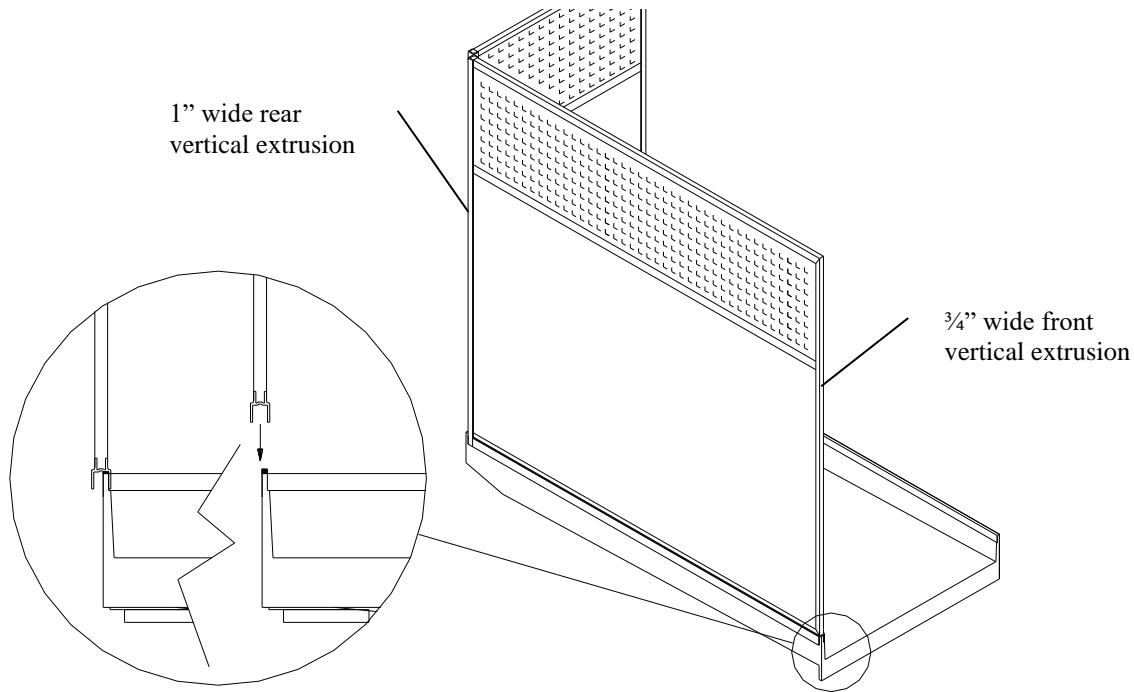

Figure 5.
1. Beginning at one end of the system, place a division panel and a back panel onto the Ultrabase. See Figure 5.